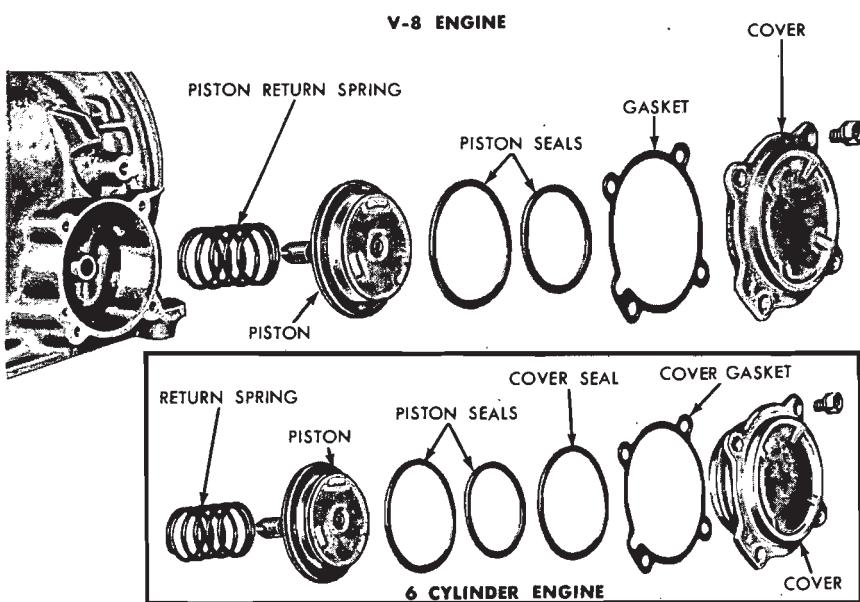

FIG. 50—Intermediate Servo Disassembled
2. Remove the servo cover, gasket, servo piston, and piston return spring from the case (Fig. 50).